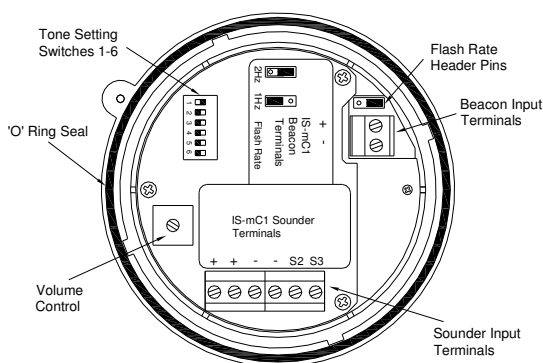

Fig 2 Location of field terminals and controls.
Power is supplied to the sounder section via the sounder input terminals + and - on the sounder PCB (see Fig 2) and the terminals have the following input safety parameters:
Power is supplied to the beacon section via the beacon input terminals + and – on the beacon PCB (see Fig 2) and the terminals have the following input safety parameters:
- Fit the required number of 20mm cable glands or conduit entries into the base and connect the field wiring to the appropriate sounder terminals as shown in section 6 and fig 2 of this manual. The power supply terminals + and - are duplicated so that sounders may
- Select the required sounder output tone by positioning the six switches as shown in Table 1 and Fig 2.
- Check that the 'O' ring seal is correctly located on the sounder/beacon section (see Fig. 2) and insert the sounder/beacon section into the base. Push it fully home and turn it clockwise to align the mouldings before tightening the security screw.
**Tone Selection** – To select the required first stage tone set the tone switches 1 to 6 (see Fig 2) to the tone setting shown in the table below. The table also shows which 2nd and 3rd stage tones are available for use with the selected first stage tone if more than one tone output stage is required.